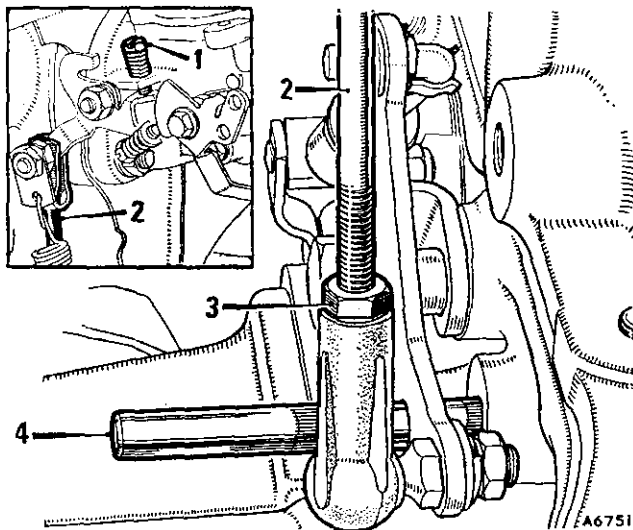
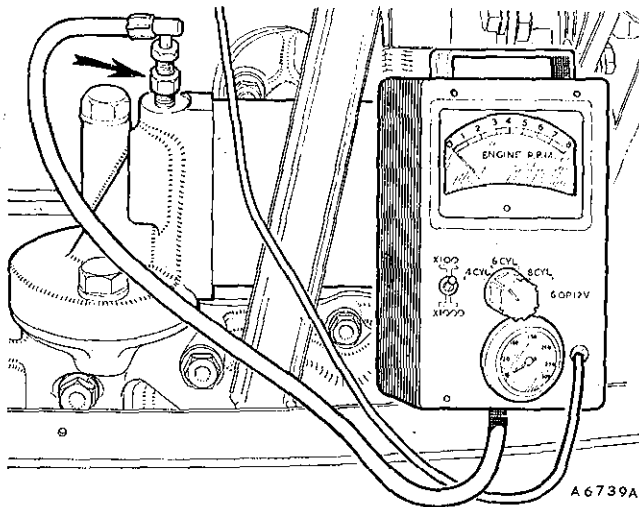

Fig. Fa.3
Fig. Fa.5
- (14) Ensure that all adjustment/locking nuts are tight and the clevis pins are secured. Pack the rubber boots with Duckham's Lammol grease. Refit the boots and the weather protection shield (if fitted).
- (15) Carry out a road test, checking the operation in each gear lever position.
- (16) Run the engine to its normal working temperature.
- (17) Disconnect the governor control rod at the carburetter.
- (18) With the carburetter correctly tuned, adjust the throttle adjusting screw to give a tachometer reading of 650 r.p.m. at tickover.
- (19) Insert a  $\frac{1}{4}$  in. (6.4 mm.) diameter rod through the hole in the governor control rod bell-crank lever and into the hole in the transmission case (Fig. Fa.3).
- (20) Slacken the locknut (3) (Fig. Fa.3) and adjust the length of the rod to suit the carburetter linkage in the tick-over position.
- (21) Reconnect the governor control rod to the carburetter. Tighten the ball joint locknut and remove the checking rod from the bell-crank lever.
- (22) Start and run the engine until it reaches its normal working temperature and check the oil level.
- (23) Connect a suitable tachometer or that of Service tool 18G 677 or 18G 677 Z (see Fig. Fa.5).
- (26) Check and top up the oil level (see Section Aa.1).
- (27) Remove the pressure point plug on the engine oil filter, fit Service tool adaptor 18G 677 C, and connect Service tool 18G 677 Z (see Fig. Fa. 5) or use pressure gauge (Service tool 17G 502 A with pipe and adaptor 18G 502 K).
- (28) Start and run the engine until the oil temperature is 80° C. (176° F.) (check with a thermometer inserted into the dipstick hole). Re-start and run the engine at 1000 r.p.m. and check the following approximate pressures: